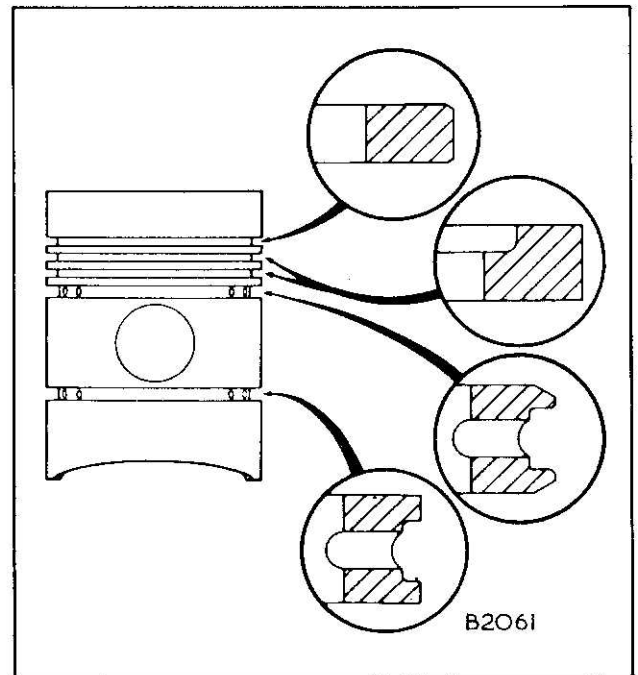

Fig. 7
1. Fit the piston rings to the pistons, Fig. 7. Where the rings are marked 'T' or 'TOP', ensure these marks are towards the top of the piston.